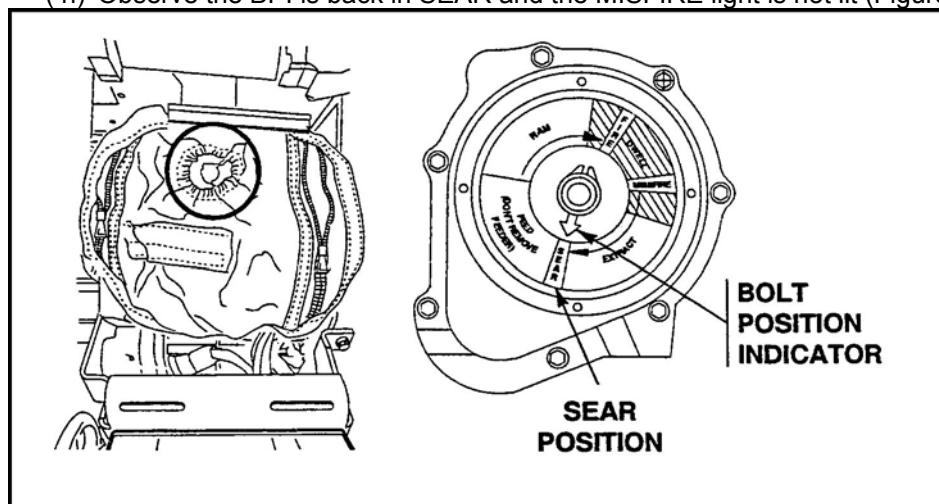

Figure 24. Bolt position indicator in SEAR position.
- (h) Observe the BPI is back in SEAR and the MISFIRE light is not lit (Figure 24).